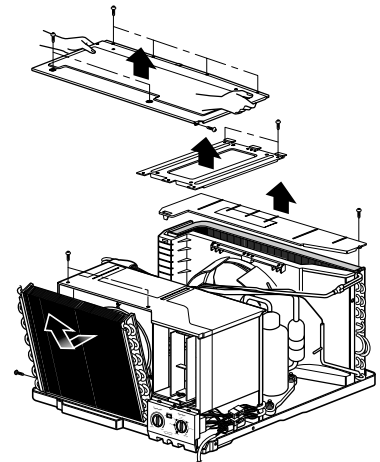

Figure 19
4. Remove the covers and the brace. (See Fig. 19)
2. Remove the 3 screws which fasten the evaporator at the left side and the top side. (See Fig. 19)